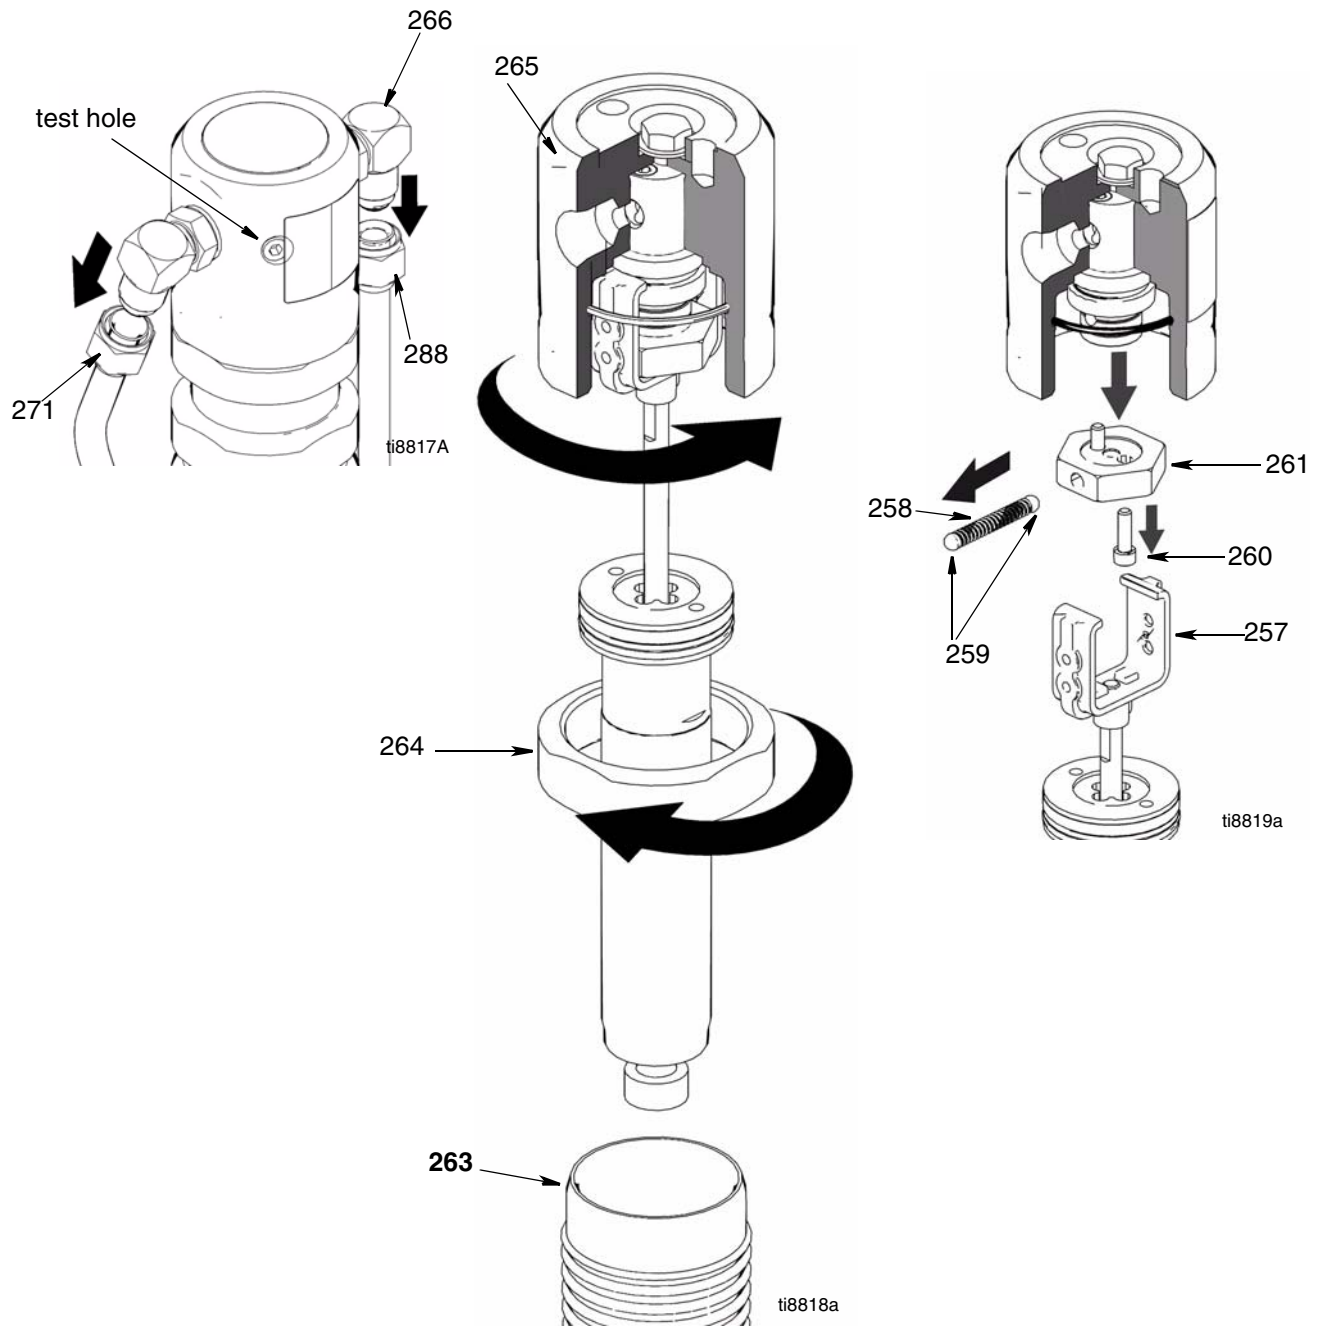

FIG. 5
(Figure 5)
1. Put hydraulic motor cap (265) in vise.
2. Install yoke (257), spring retainer (261), piston and trip rod assembly in hydraulic motor cap (265). Use shortened Allen wrench to install two screws (260) in spring retainer to secure piston rod assembly to hydraulic motor cap.
3. Slide piston rod assembly into hydraulic motor cylinder (263).
4. Screw down hydraulic motor cap (265). Unscrew hydraulic motor cap until inlet and outlet align with hydraulic line fittings and test hole in hydraulic motor cap points toward belt guard (117).
5. Torque jam nut (264) against hydraulic motor cap (265) to 150 ft-lb (17 N·m).
6. Fig. 5. Install hydraulic lines (271, 288) to fittings (266) to top left and right side of hydraulic motor; torque to 40 ft-lb (54.2 N·m).